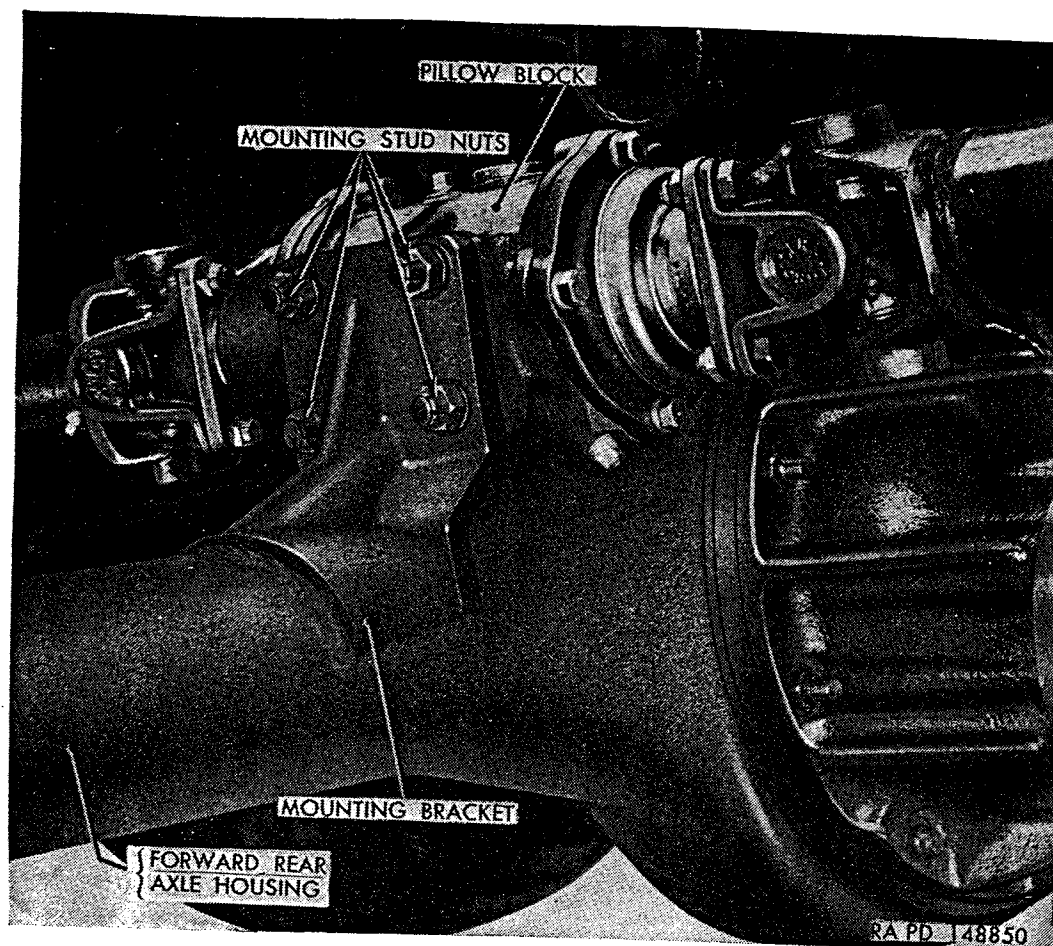

Figure 243. Pillow block installed.
e. *Pillow Block* (fig. 243). Pillow block assembly, mounted on top of forward rear axle, connects and supports the two propeller shafts required to transmit power from transfer to rear rear axle.
a. *Description.* Pillow block consists of a shaft supported by two ball bearings mounted in a housing. Pillow block is installed on forward rear axle housing as shown in figure 243. Double lip oil seals, supported in retainer, are used at each end to prevent loss of lubricant and entry of dirt, water, and other foreign matter.